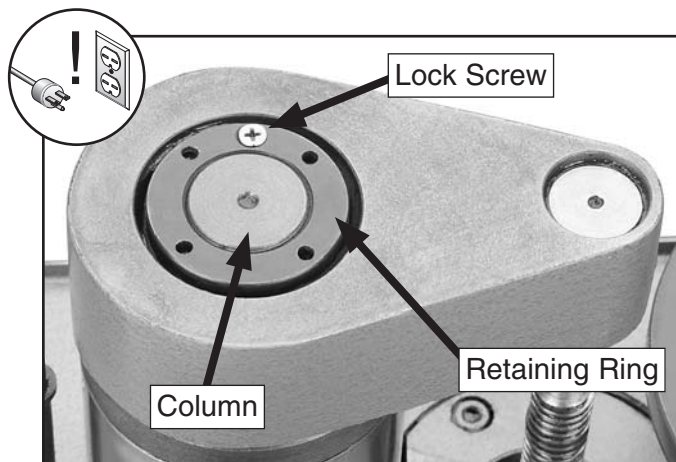

Figure 96. Mill column thrust bearing retaining collar.
7. Mark the retaining collar and the column so that you can return the retaining ring to the same position when finished with this procedure (see **Figure 96**).